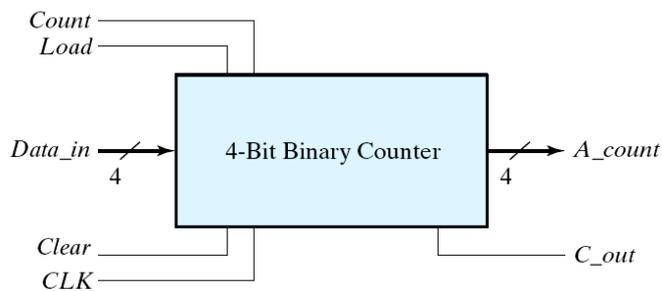

Fig.3
3. Use the four-bit binary counter with parallel load (Fig.3) to implement a mod-12 counter